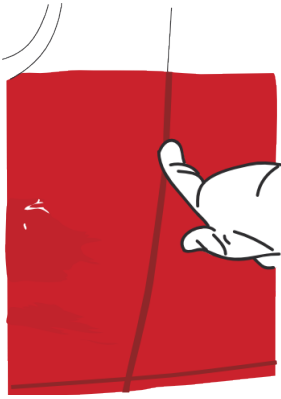

Figure 32
- › Trace the contours of the area with your (gloved) finger. (FIG. 32)